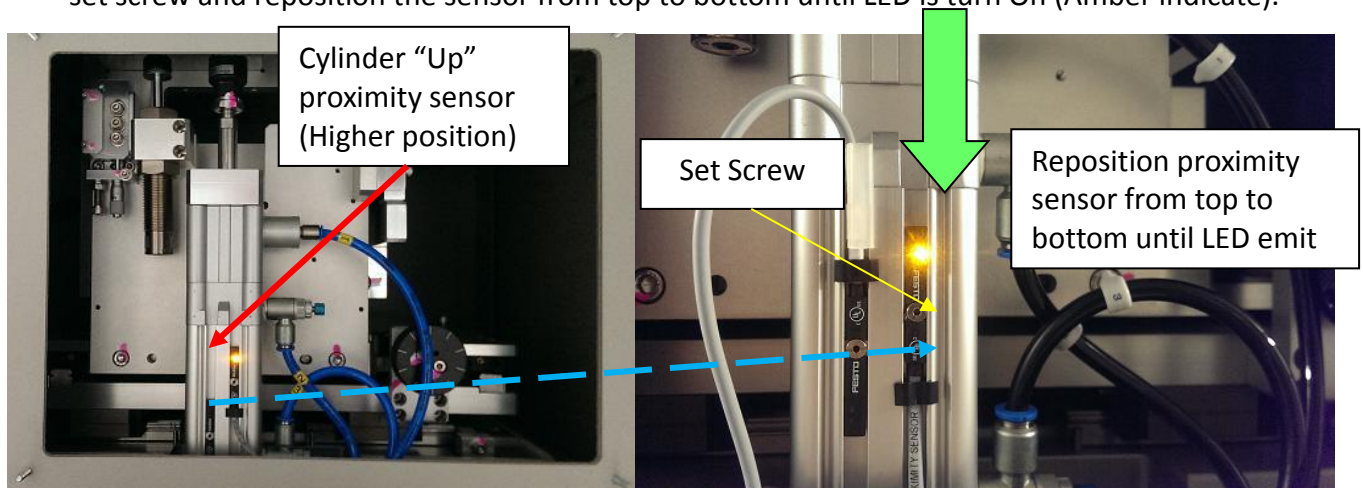

Figure 19
23. With tube cylinder up position, check for proximity sensor signal. The higher proximity sensor should emit Amber LED with tube up position as Figure 19. If the sensor **NOT** emitted, loosen the set screw and reposition the sensor from top to bottom until LED is turn On (Amber indicate).